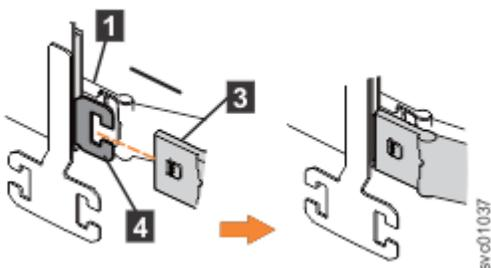

Figure 75. Install the outer connector of the upper CMA to the outer member of the support rail
3. Install the outer connector of the upper CMA assembly (3) to the outer member of the left support rail (4), as shown in Figure 75 on page 70.